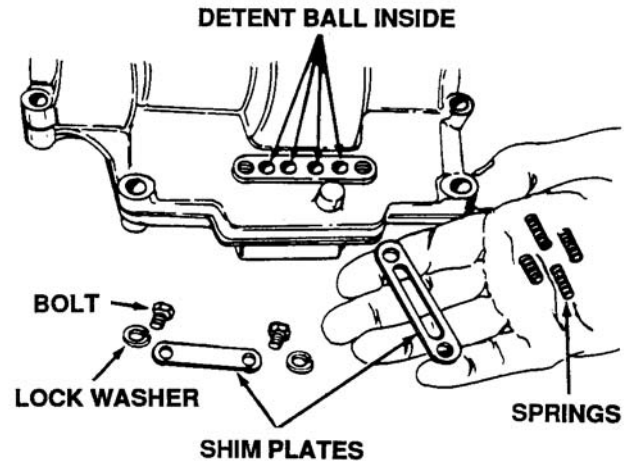

Figure 5-30. Removing Shim Plates
3. Remove the detent plate cover and shim plate from front edge of transaxle by removing two hex bolts and lock washers. See Figure 5-30.